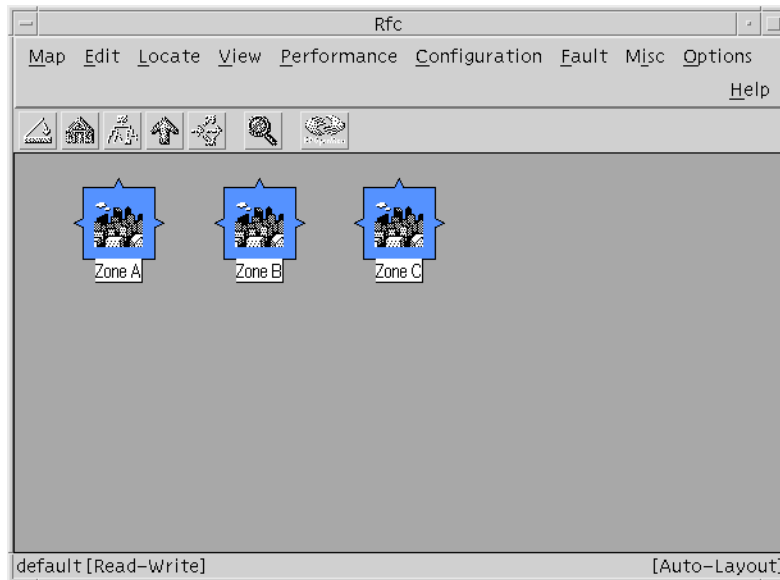
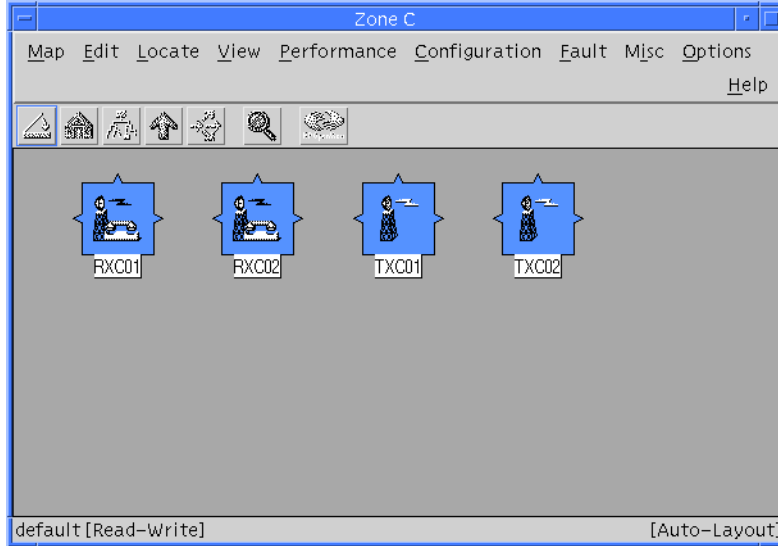

Figure 4-11: RF-C! Window
Figure 4-12: Zone Window
10. Set up the controllers with zones (see Figure 4-11), transmitters (see Figure 4-12), and receivers (see Figure 4-12) for your paging system using the same procedures you used for the network elements.